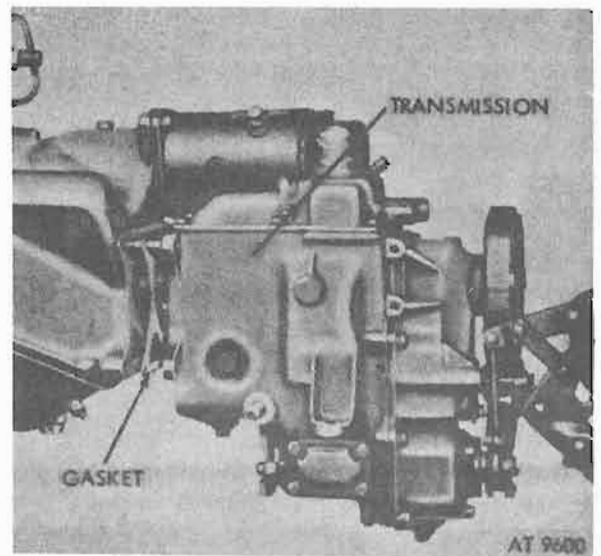

Figure 4-47. Transmission and gasket.
(3) Remove transmission. Remove and discard gasket (fig. 4-47).
b. Installation. Refer to figure 4-47 and 4-46. Torque the transmission attaching bolts (7 / 16-14) to 37-42 lb.-ft. Adjust parking brake (TM 9-2320-218-20). Refer to lubrication order for type and quantity of lubricant.